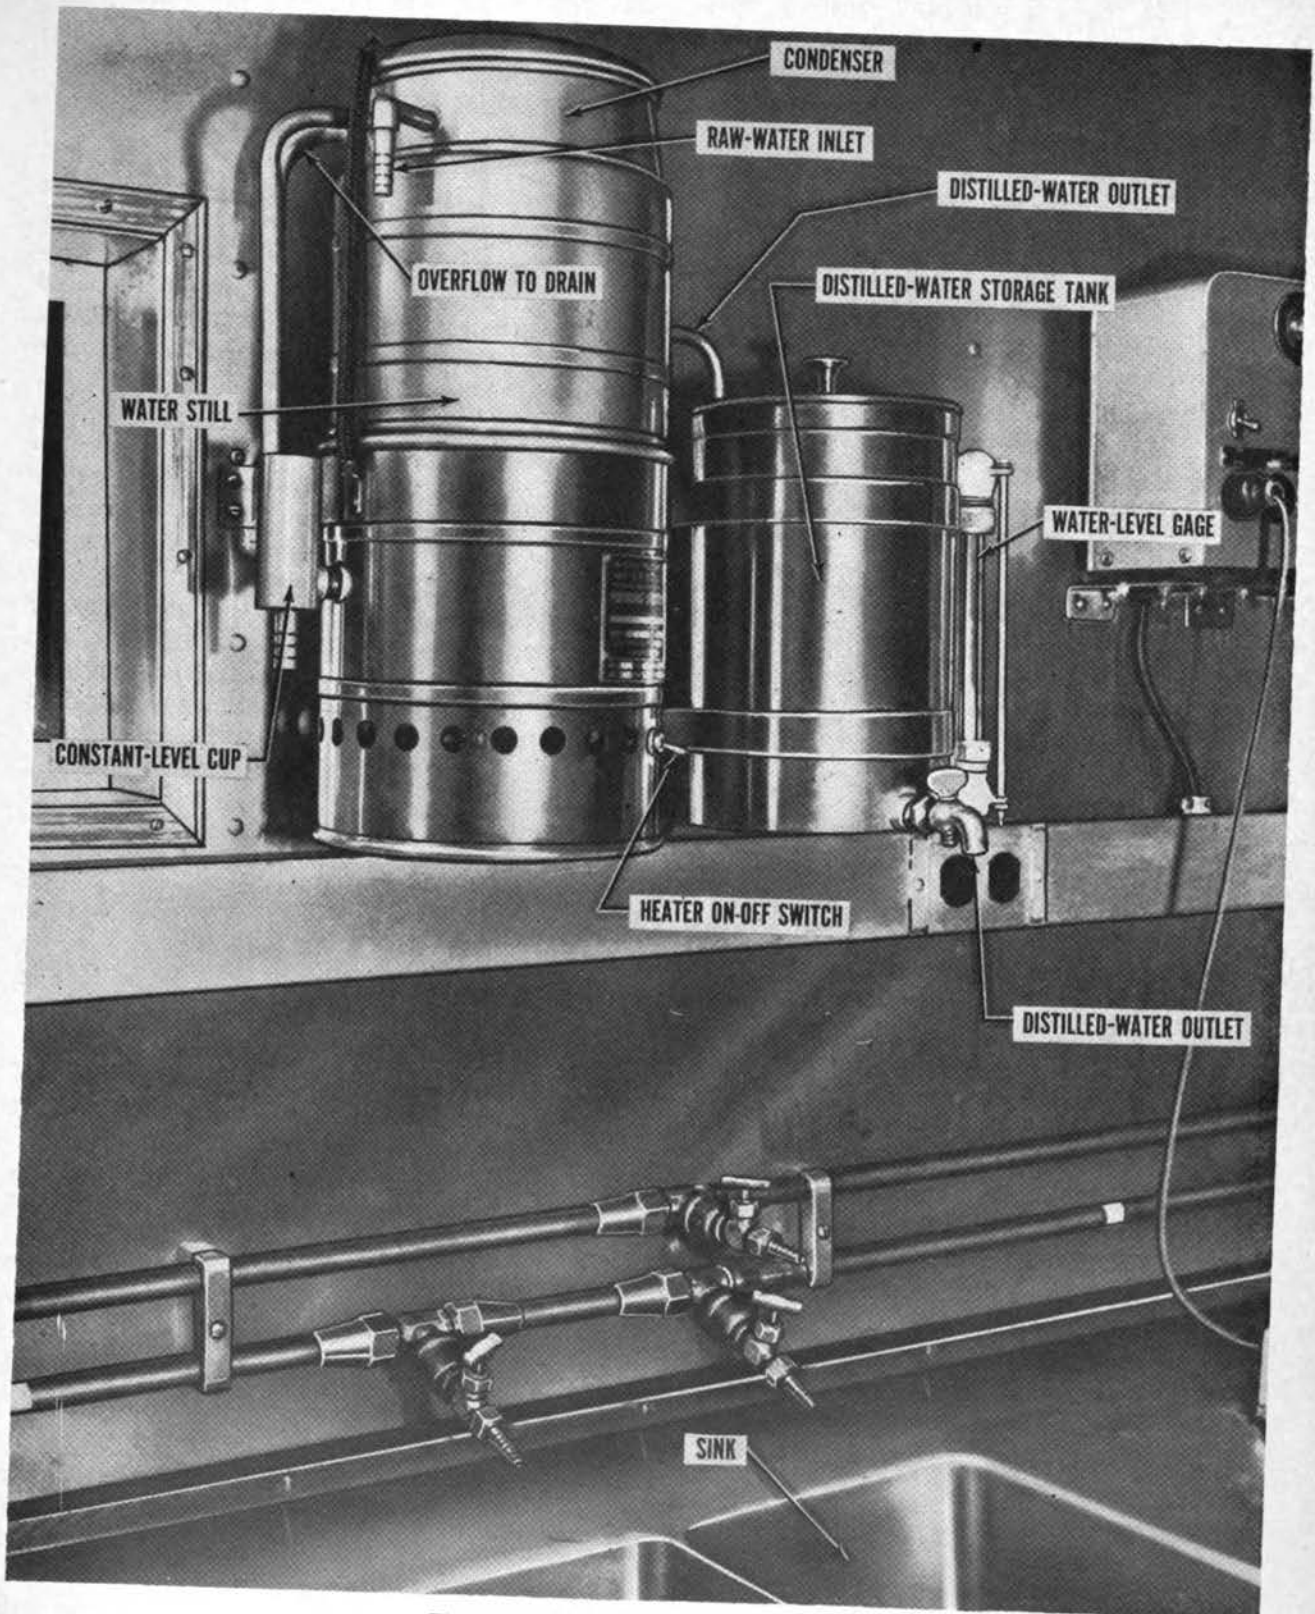

Figure 50. Water still and storage tank.
a. Description. The water still and distilled-water storage tank are mounted above the sinks on the right wall of the laboratory compartment (fig. 50). The water still is used to distill water for use in test procedures. The still consists of a heater section, containing a 1,200-watt heating element; a boiler section, directly above the heating element; and a condenser section at the top. Circuit breaker switch 4 controls current to the heater. The still is designed to operate so that the water circulates through the condenser before passing into the boiler section where it is vaporized. To insure that an even flow of raw water is maintained, a special uniflow constant-head cup is provided with the still. The cup, along with its mounting rod and a hose Y-fitting, is stored in drawer BD-12. The still has a rated capacity of one-half gallon of distilled water per hour.
- (1) Use mounting rod and two right-angle clamps to install uniflow cup at a level higher than the raw-water inlet nipple. Secure the lower clamp to the upper mounting bracket on the still. Position the upper clamp so that it can be raised or lowered, as required, on the mounting rod.
- (2) Connect a hose from water-outlet valve on wall to middle uniflow cup nipple marked INLET. Connect a hose from cup nipple marked OUT to main branch of Y-fitting. Connect a hose from cup nipple marked APP to raw-water inlet of still. Connect a hose from overflow nipple at bottom of constant-level cup on the still to a branch of the Y-fitting. Connect a hose from a branch of Y-fitting, allowing free end to hang into sink for drainage.
- (3) Insert a thermometer, with range including 150° to 200° F., into the constant-level cup.
- (4) Open water-outlet valve to admit water into system. Adjust valve so